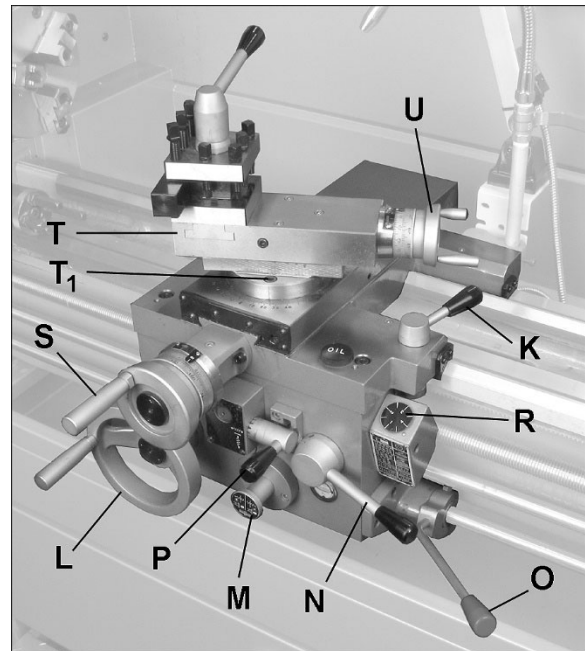

Figure 10-5 (cutting tool not provided)
5. Set feed direction lever (P, Figure 10-5) to correct position (neutral).
6. Engage half nut (N, Figure 10-5). The half nut lever (N) and threading dial (R) are used to thread in the conventional manner, based upon the leadscrew, which is in Imperial units (8 TPI). The thread dial chart (Figure 10-6) specifies at which points a thread can be entered using the threading dial.